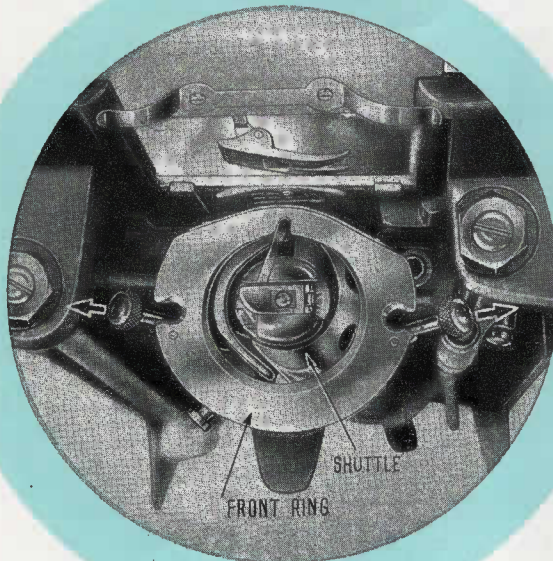
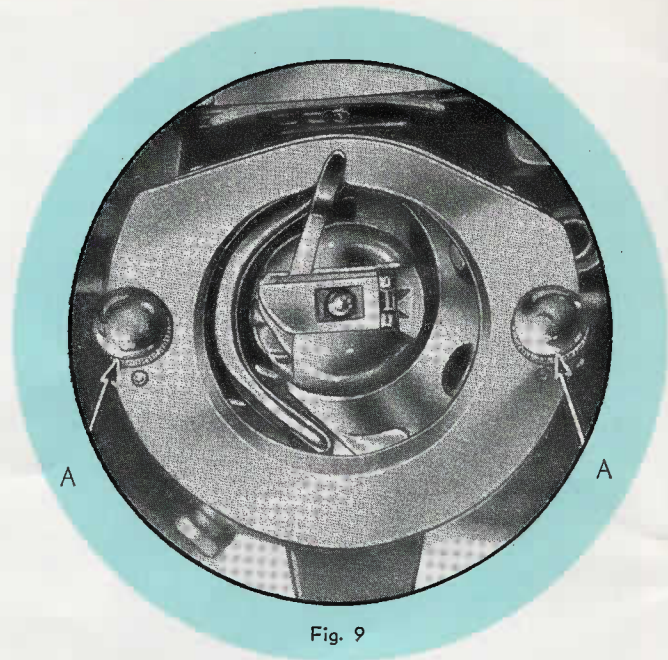

Fig. 10
Fig. 9
2. Release the KNOBS (A) on both sides of shuttle race (Fig. 9) by pushing them sideways; then take out the front ring and the shuttle with your fingers. (Fig. 10)
4. Snap knobs into place as seen in Fig. 9.